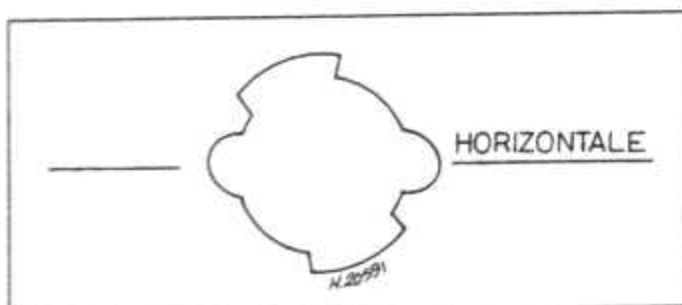

Fig. 13.65 Template for later type side repeater lamp front wing hole (Sec 20)
- 18 Only the later type lights are available as replacements, and their fitting on early models will necessitate filing out the hole in the wing using the template shown in Fig. 13.65.